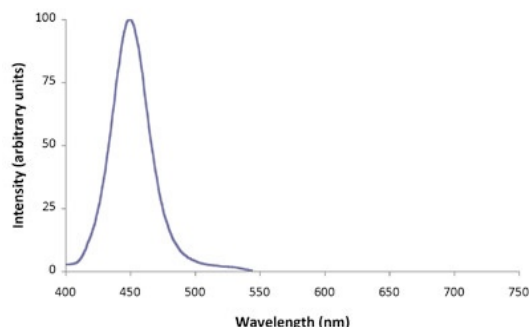
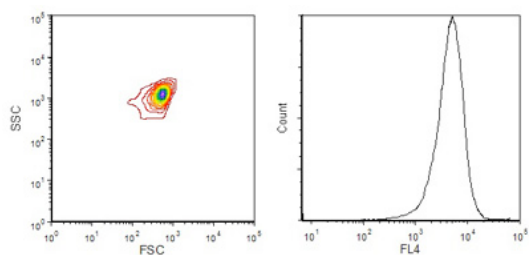

Figure 1. Emission spectra of Zepto™ Ultra Express Microspheres of 5 colors.
Figure 2. FSC-SSC plot and fluorescence histogram of Zepto™ Ultra Express Blue Microspheres on a flow cytometer.
The emission spectra are illustrated in Figure 1. They are a suitable for flow cytometry-based assays. The Forward Scatter (FSC) vs. Side Scatter (SSC) plot and fluorescence histogram of Zepto™ Ultra Express Blue Microspheres in FL4 (405 nm excitation; 455 nm emission) on a typical flow cytometer are illustrated in Figure 2. The plots of the other colors are similar.
1. Gate on the single population of microspheres on FSC vs. SSC plot (refer to Figure 2)